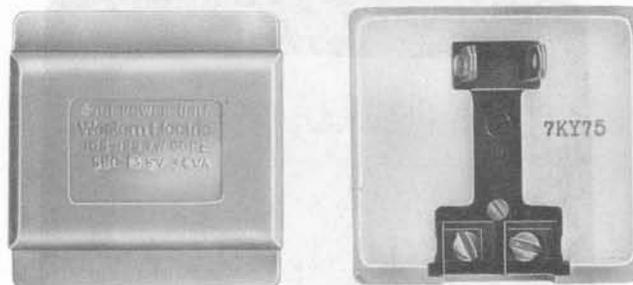

Fig. 21—95B1 Power Unit
13.01 The 95B1 power unit (Fig. 21) is used to furnish ac power for the TOUCH-A-MATIC® 32 telephone set. Available in Light Olive Gray (-49) only.